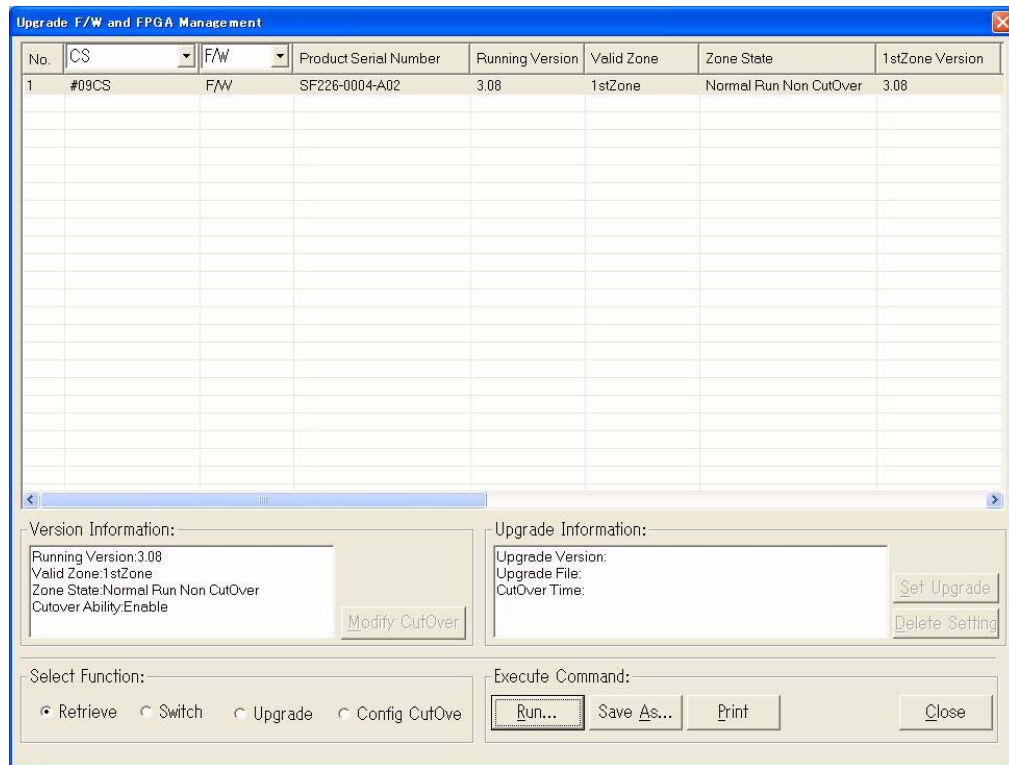

Fig. 4-10-3 Upgrade F/W and FPGA Dialog Box
- 4 Select **Upgrade F/W and FPGA** from the **Maintenance** menu. The **Upgrade F/W and FPGA** dialog box shown in *Fig. 4-10-3* appears: